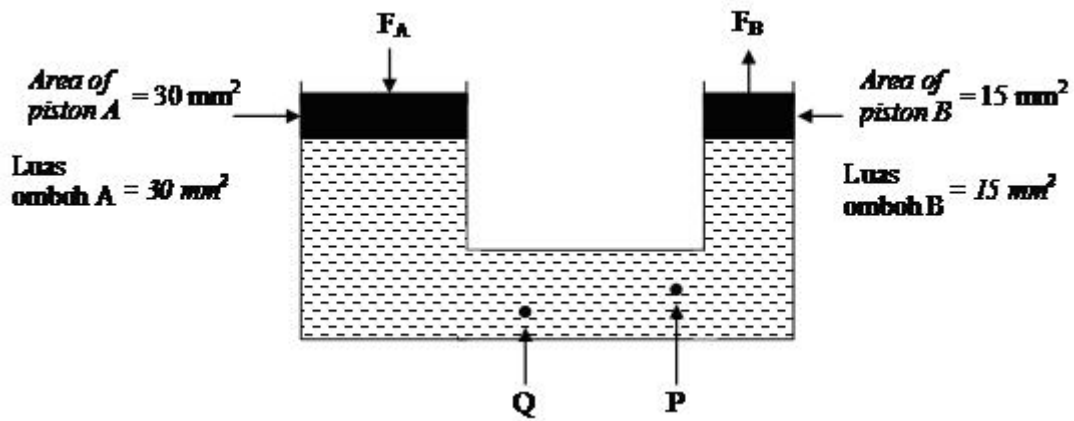

FIGURE 10
20. Figure 10 shows a hydraulic system.